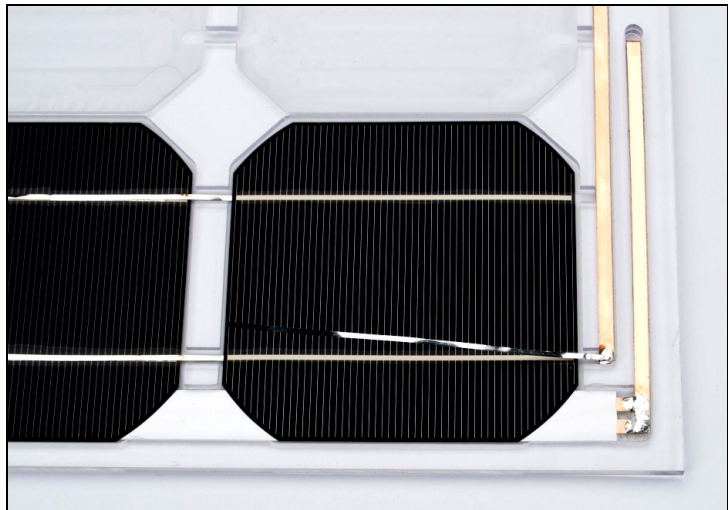

Figure 27
- ✓ Cut two lengths of tabbing wire 5.25" long. Solder one end of each of these to the copper bus-bar in groove "E" as shown in Figure 27. Then apply flux and solder these to the top of the cell just like we did above.